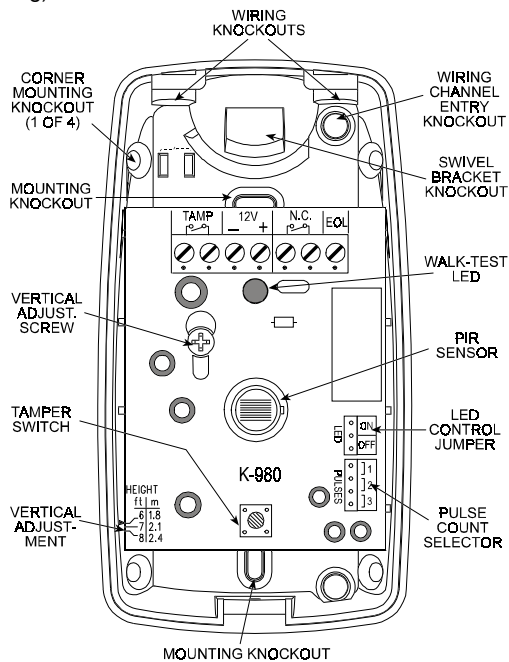
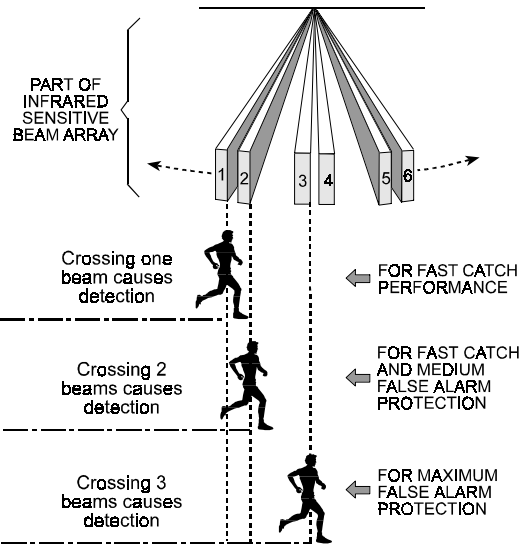

Figure 5. Inside View
Figure 12. Pulse Counter Setting Options
D. Refer to Figure 5 and punch out the mounting knockouts at the rear wall of the base (for surface mounting) or mounting knockouts at the angled sides of the base (for corner mounting).
- E. Punch out any one of the wiring knockouts shown in Figure 5.
The location of the pulse count selector is indicated in Figure 5. Refer to Figure 12 below and mount the jumper as desired.